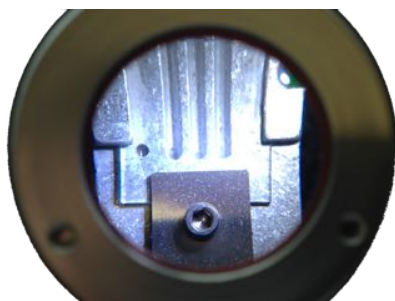

Figure A1.3: View screen on the Melt Station. Three capillary sample wells are visible.
3. Place the sample into one of the three Melt Station sample wells (Figure A1.3). Observe the capillary through the view screen.